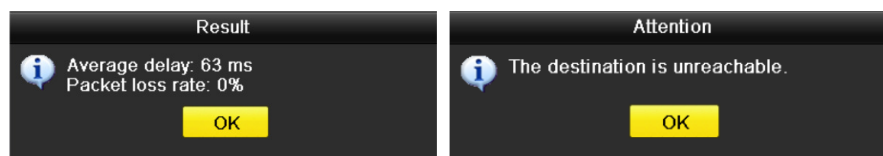

Figure 207 Testing Result of Network Delay and Packet Loss
4. Click **Test** button to start testing network delay and packet loss. The testing result pops up in the window. If the testing fails, the error message box will pop up as well. Refer to Figure 207.